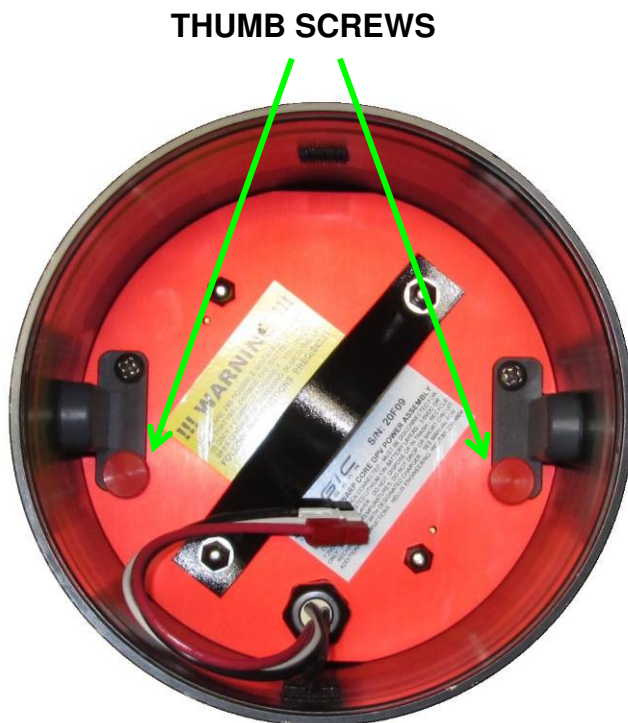
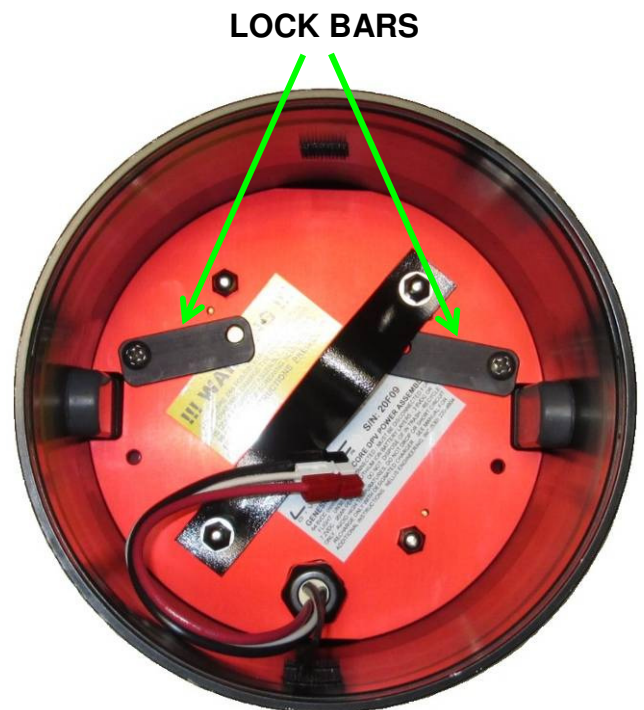
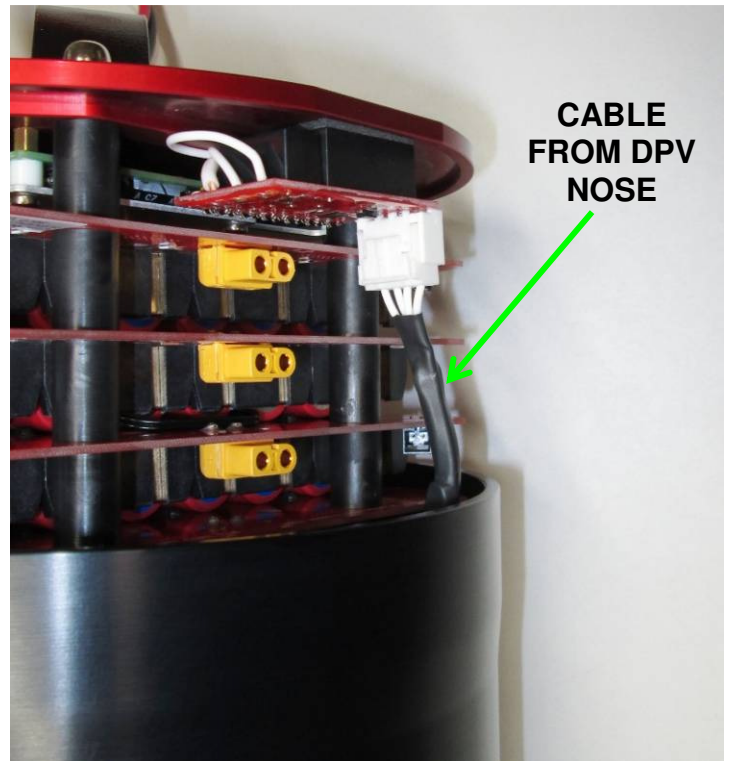

Figure 1
Figure 2
Figure 3
1. Remove two thumbscrews and rotate two black locking bars out of groove in gray bar, so battery can be removed, then reinstall thumbscrews in holes to prevent losing them. (Figures 1 & 2)
3. Ensure cable from nose of DPV is disconnected before removing battery completely from DPV. (Figure 3) The connector has a small latch that must be actuated to disconnect.
7. Lower the battery into the DPV body with the cable from the nose of the DPV body on the side of the battery with the Charge Control Circuit Board (CCCB). Stop 3 to 4 inches before the tube opening and connect the cable to the white 4 pin connector (Figure 3). Rotate the 2 black locking bars clear of the notches in the red aluminum plate (Figure 2) and finish lowering the battery into the DPV body so the gray bars align with the notches in the red plate of the battery. Rotate the black lock bars into the slot in the gray bars to lock the battery in place and install the two red thumb screws finger tight. (Figure 1)
9. Lower the battery into the DPV body with the cable from the nose of the DPV body on the side of the battery with the Charge Control circuit board. Stop 3 to 4 inches before the tube opening and connect the cable to the white 4 pin connector (Figure 3). Rotate the 2 black locking bars clear of the notches in the red aluminum plate (Figure 2) and finish lowering the battery into the DPV body so the gray bars align with the notches in the red plate of the battery. Rotate the black lock bars into the slot in the gray bars to lock the battery in place and install the two red thumb screws finger tight. (Figure 1)